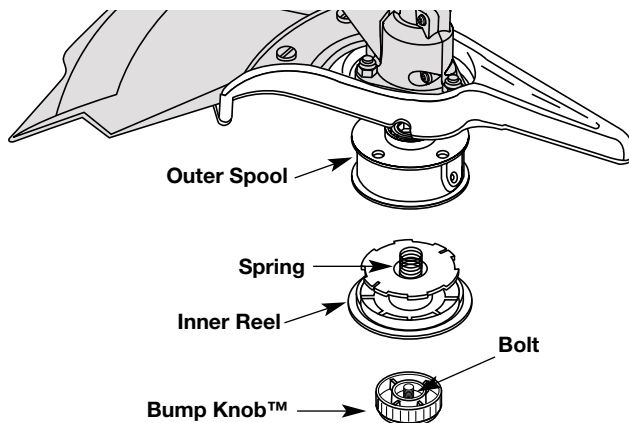

Fig. 32
1. Hold the outer spool with one hand and unscrew the Bump Knob™ clockwise (Fig. 32). Inspect the bolt inside the Bump Knob to make sure it moves freely. Replace the Bump Knob if damaged.
2. Remove the inner reel from the outer spool (Fig. 32).
3. Remove spring from the inner reel (Fig. 32).
- Hold the outer spool with one hand and unscrew the Bump Knob counterclockwise (Fig. 32). Inspect the bolt inside the Bump Knob to make sure it moves freely. Replace the Bump Knob if damaged.
- Remove the old inner reel from the outer spool (Fig. 32).
- Remove the spring from the old inner reel (Fig. 32).